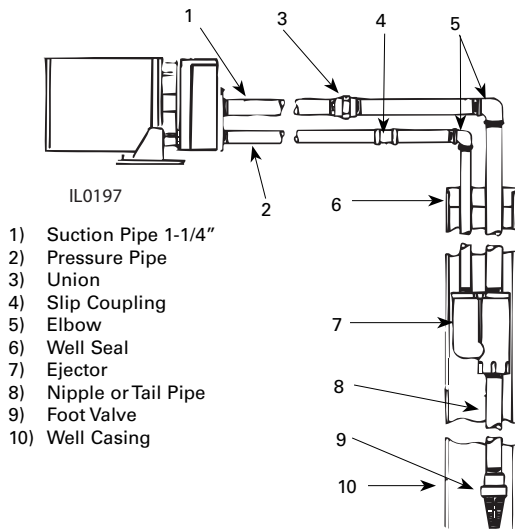

Figure 12 - 4" I.D. Deep Well Installation
Application - Where pumping water level is greater than 25 feet and inside diameter of well is four (4) inches or larger. (See figure 12).